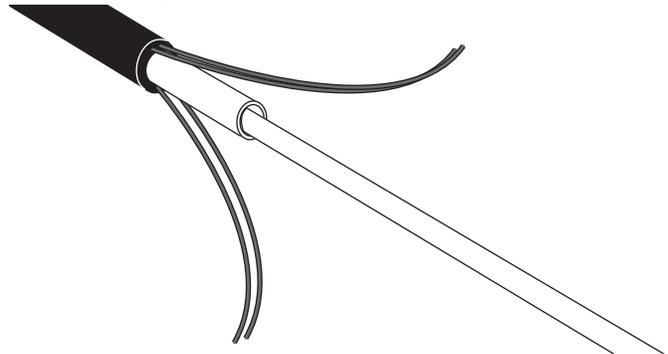

Figure 13
- f) Repeat these steps until the desired length of central tube is removed, leaving at least 2.5 cm (1 in.) of exposed tube beyond the end of the sheath (see Figure 13). *The length of exposed buffer tube may vary depending on the hardware being used.*
- 5.3 Carefully separate the water-swappable tape from the ribbons (Figure 13).